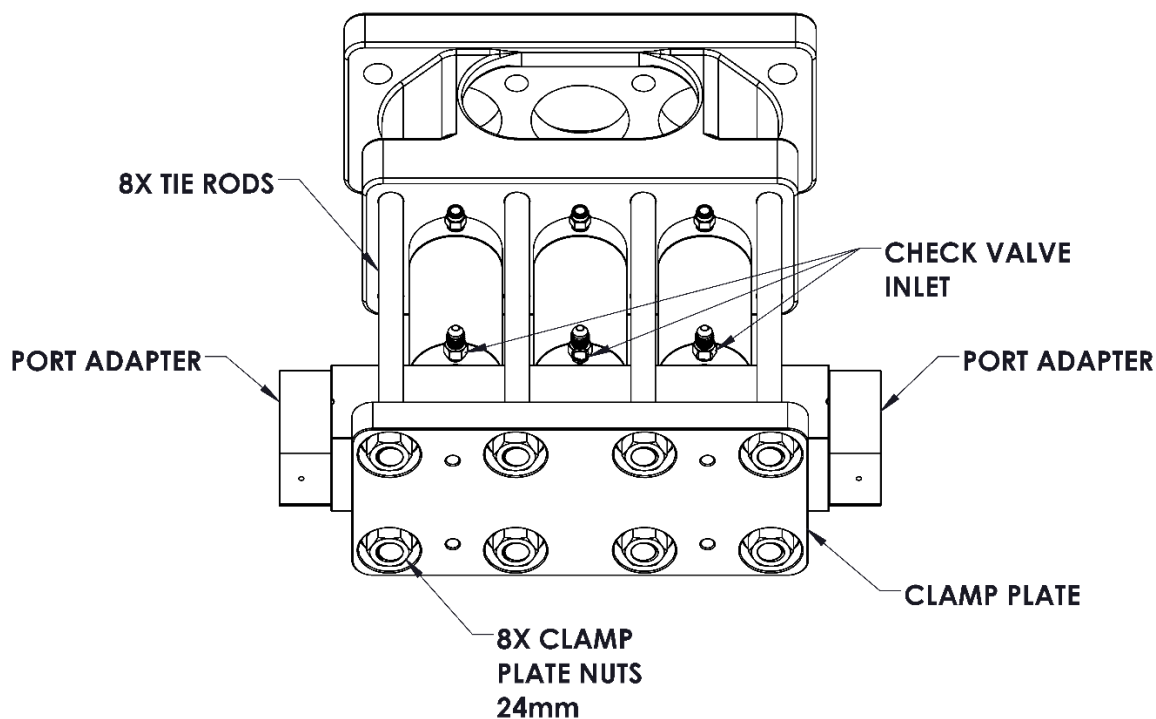

Figure 2 High-Pressure Wet End Assembly
The high-pressure wet end assembly is made up of the pump parts that are bolted to the crankcase and are involved in providing high-pressure water. (See **Figure 2** on next page.)
2. **Use** the 13/16" and 1" open-end wrench to **disconnect** the hard plumbing from the port adapter. (See **Figure 2** on next page.)